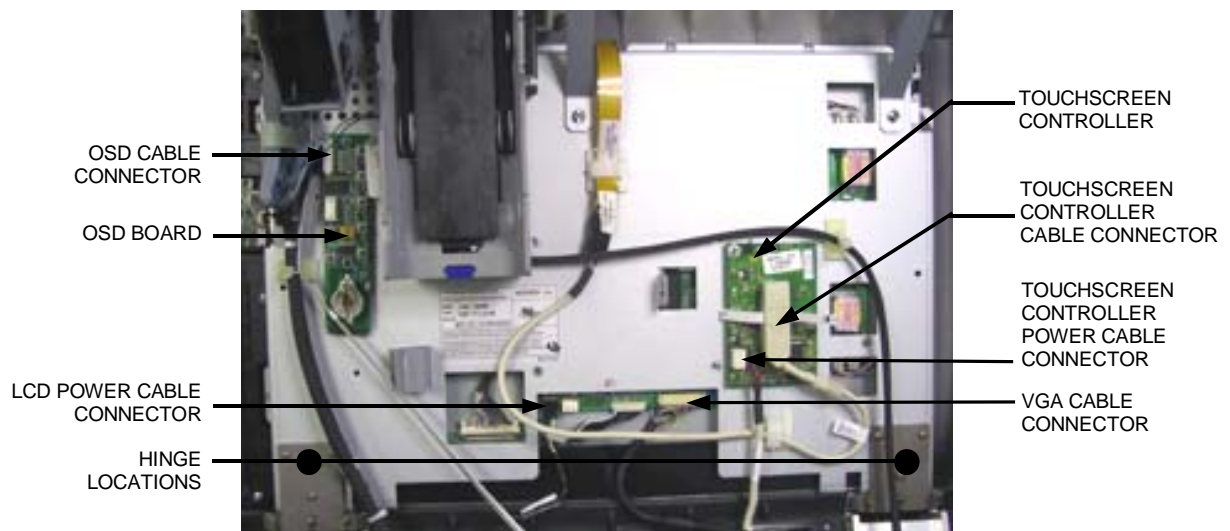

FIGURE 1 - MONITOR CONNECTIONS
3. Disconnect the LCD power cable connector, the VGA cable connector, and the touchscreen controller power cable connector (see Figure 1).
*If you are replacing the monitor:* Disconnect the OSD cable connector and then remove the OSD board from the Velcro securing it to the rear of the monitor (see Figure 1).